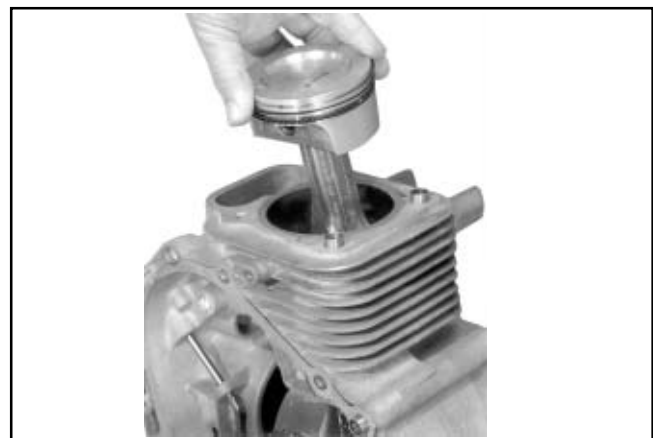

Figure 9-67. Removing Piston/Connecting Rod Assemblies.
2. Carefully remove the connecting rod and piston assembly from the cylinder bore. See Figure 9-67.